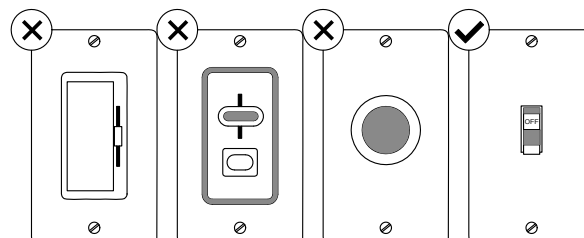

Figure 1
- ☐ 1. Install light bulbs into sockets by threading in a clockwise direction. (Figure 1)
- ☐ **1. IMPORTANT:** Using a full range dimmer switch (not included) to control fan speed will damage the fan. To reduce the risk of fire or electrical shock, do not use a full range dimmer switch to control the fan speed. (Figure 1)